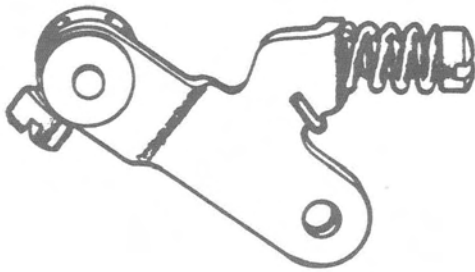

Figure 4A. Incorrect
8. Inspect carburetor for correct position of the anchor tab on throttle shaft return spring. (Figures 4A and 4B) If necessary, reposition spring anchor tab (by bending with a pliers) to conform with location and position SHOWN IN FIGURE 4B.